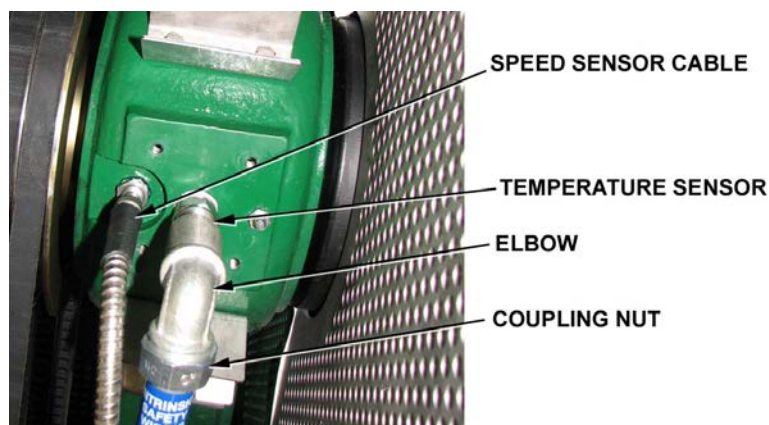

Figure 5-5. Solid End Temperature and Speed Sensors
7. Remove liquid and solid end temperature sensors (Figure 5-5) from main bearing pillow blocks.